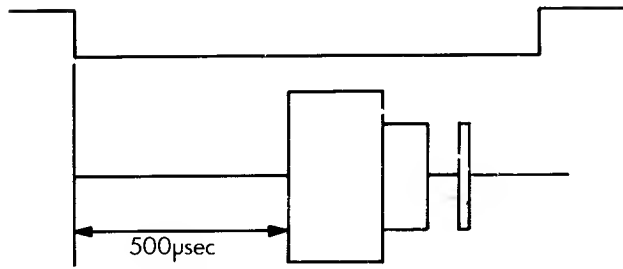

Fig. 5-1 Index burst waveform
- 5) Measure timing between sweep start and an initial data pulse. It should be 500 usec  $\pm$  500 usec. When the timing is not within this range, proceed with the following adjustment. (Refer to Fig. 5-1).